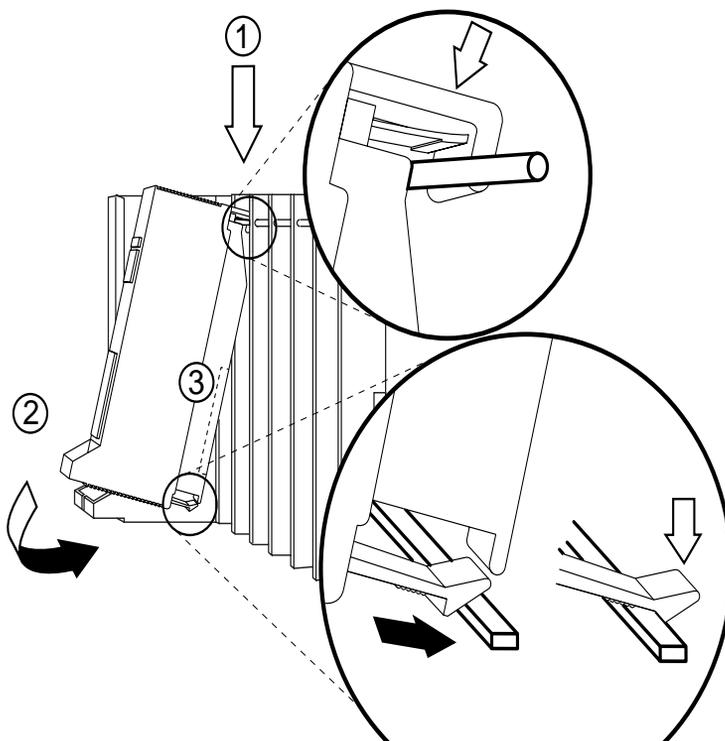

Figure 9-4. Replacing a Module in the Carrier
- ▶ 4. Reinstall the power supply module by hooking it onto the rod at the top of the carrier and then swinging it down into place. See Figure 9-4.
- ▶ 11. Replace the processor module into the carrier. See Figure 9-4.